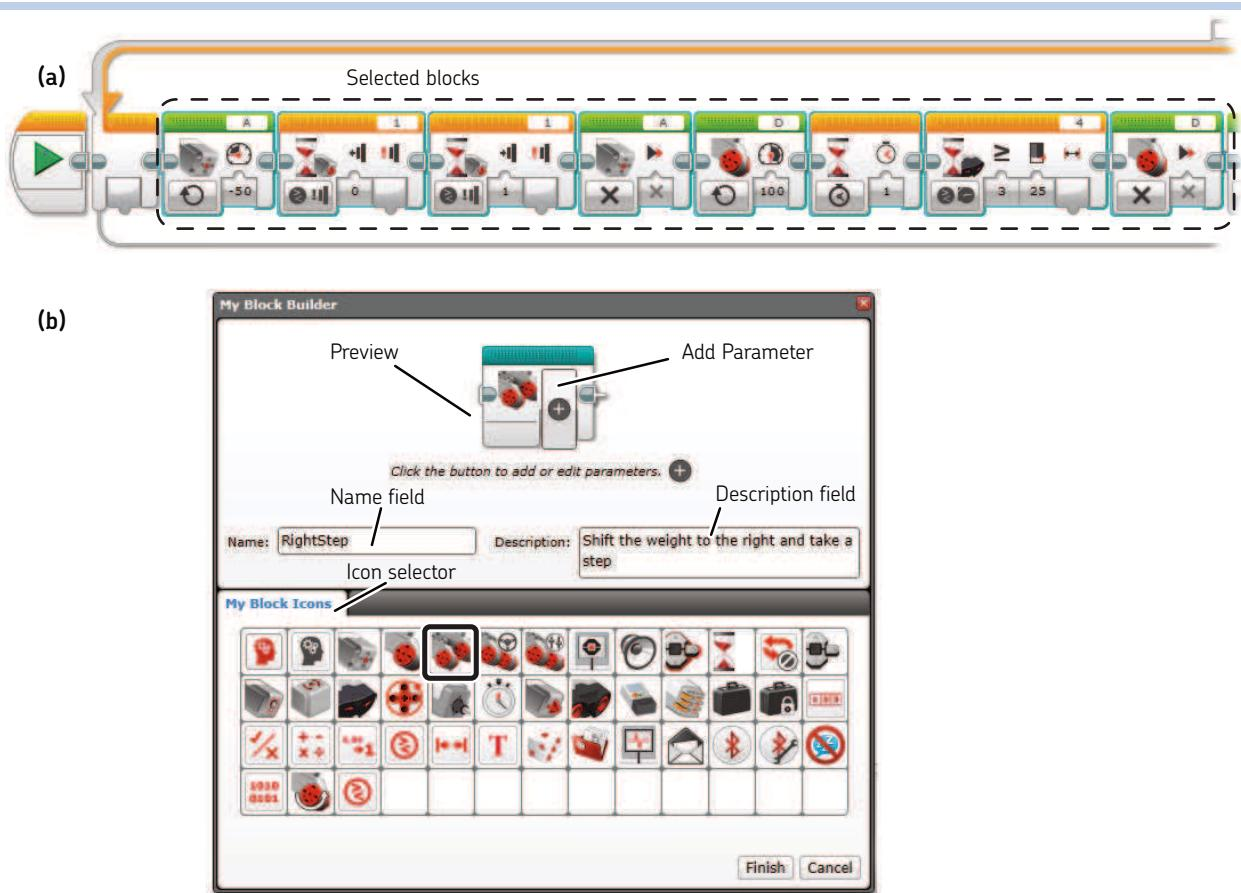
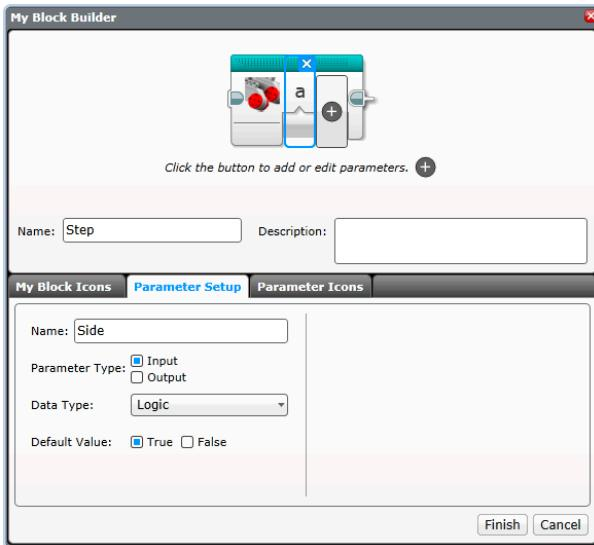

Figure 10-4: To create a My Block, select the blocks you want to include (a) and open the My Block Builder dialog (b).
Figure 10-8: How to configure an input in the My Block Builder tool
1. Drag a selection window to select the first eight blocks inside the Loop, as shown in Figure 10-4(a). The selected blocks should be highlighted with a cyan border.
2. With these blocks selected, click **Tools ▶ My Block Builder**. The My Block Builder dialog should appear, as shown in Figure 10-4(b).
2. Using Figure 10-4(a) as reference, select the first eight blocks inside the Loop block and choose **Tools > My Block Builder**. The dialog shown in Figure 10-4(b) should appear. Enter *Step* into the block's Name field and choose the icon showing *two Large Motors*. Now click the Add Parameter button—it looks like a plus sign in a circle. The Block Preview should look like the one in Figure 10-8.